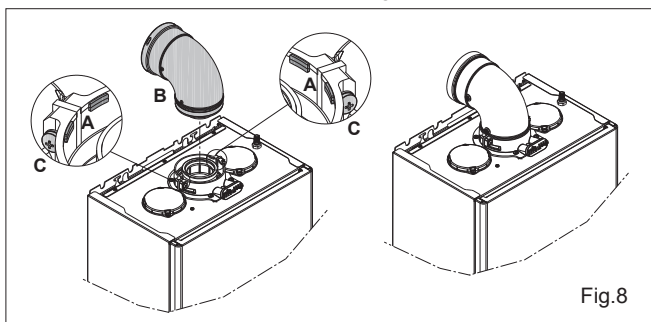
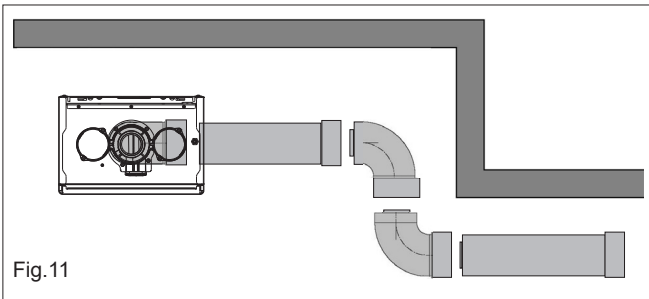

Fig.8
Fig. 11
**NOTE (Fig.8):** The appliance incorporates a 'click-fit' flue connection. Ensure that both screws 'C' on the 'click-fit' have been slackened off. Ensure that the connector is correctly aligned with the 'click-fit' and insert it into the 'click-fit' until it clicks into position (this is when the tabs at points 'A' are located in the groove of the flue bend connector). Both screws (C) should now be tightened.
Connect the bend – supplied with the terminal kit – to the top of the boiler (see Fig.8). The additional bends & extensions have push-fit connections, care should be taken to ensure that the correct seal is made when assembling the flue system. Connect the required number of flue extensions or bends (up to the maximum equivalent flue length) to the flue terminal (Fig.11). The flue system should have a 3° rise from the boiler to outside, to ensure any condense fluid that forms, is allowed to drain back to the appliance.
When cutting an extension to the required length, you must ensure that the excess is cut from the plain end of the extension (Fig.11). Remove any burrs, and check that all seals are located properly. You must ensure that the entire flue system is properly supported and connected. Seal the flue assembly to the wall using cement or a suitable alternative that will provide satisfactory weatherproofing. The interior and exterior trim can now be fitted.